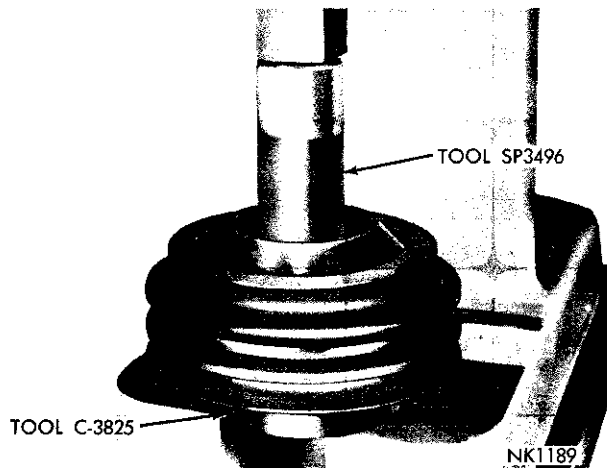

Fig. 30—Removing Bearing from Pulley Assembly
(3) Remove the three spring retaining screws and washers. Use a thin screwdriver to pry out the tanged end of the helical spring and turn the helical spring counter-clockwise to remove from the hub.
(4) Remove the bearing snap ring from the pulley assembly.
(5) Place the pulley assembly on an arbor press, with the pulley side down and the bearing hub centered on Tool C-3835. Install Tool SP-3496 on the inner race of the bearing, and press the bearing from the pulley assembly (See Fig. 30).